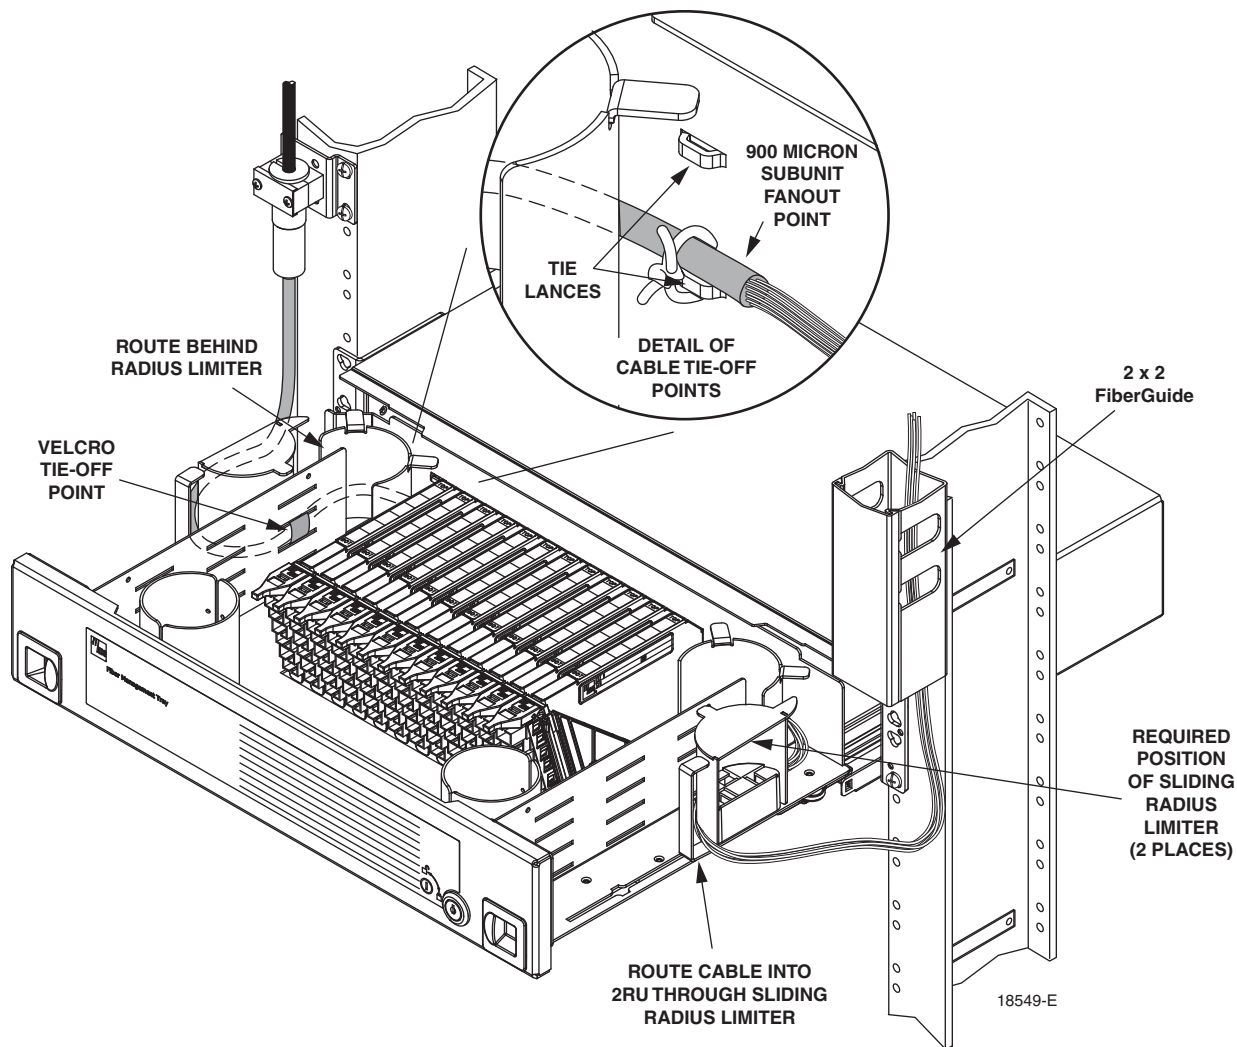

Figure 16. Securing Cables Within 72-Position Micro-VAM Tray
2. Route the cable along the rack to the tray as shown in Figure 16 on page 19.
- 7. Secure the cables on the side and rear of the tray as shown in Figure 16 on page 19.